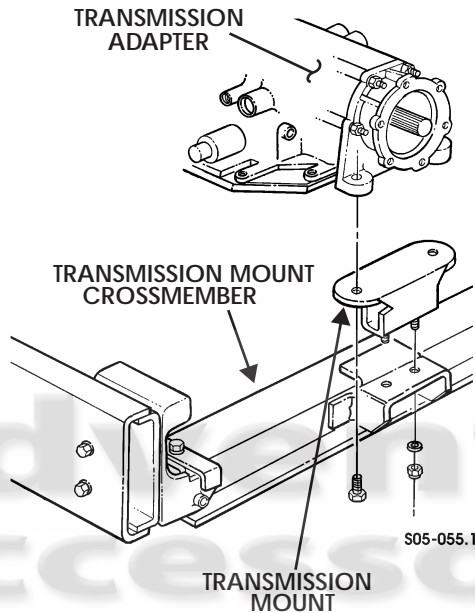

Figure 5-98: Transmission Adapter and Crossmember
3. Remove two nuts, lockwashers, and transmission mount from crossmember. Discard lockwashers (Figure 5-98).
1. Install transmission mount on crossmember with two lockwashers and nuts. Tighten nuts to 65 lb-ft (88 N•m) (Figure 5-98).